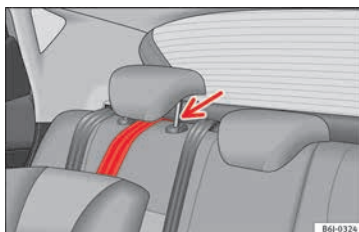

Fig. 28 Retainer strap: correct adjustment and fitting.
- Guide the strap under the rear seat head restraint » **Fig. 28** (lift the head restraint where necessary).